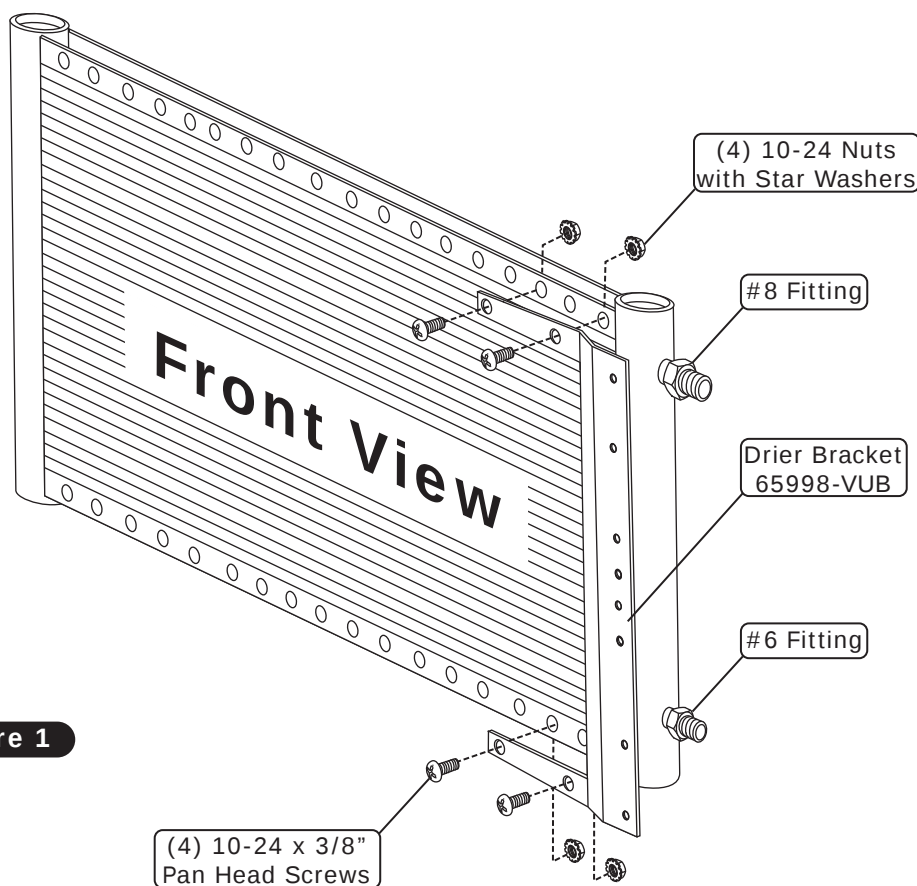

Figure 1
1. Install the drier mounting bracket onto the condenser using (4) 10-24 x 3/8" pan head screws and (4) 10-24 nuts with star washers (See Figure 1, below). **NOTE: Brackets mount through the 1st and 3rd holes in the condenser.**